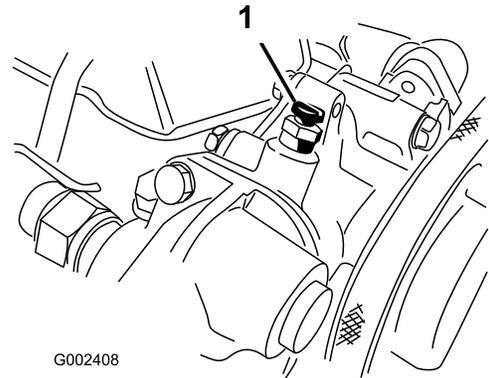

Figure 66
6. Open the bleed screw on top of the water pump (Figure 66).